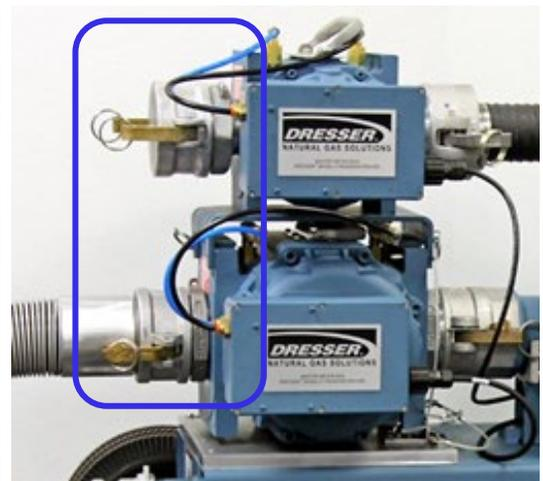

Figure 5: Hose connected to Master Meter to be used and other is capped
3. If the Prover has two Master Meters, ensure the Cam Lock Cap is firmly attached to the inlet quick-disconnect coupling of the unused Master Meter (Figure 5).
Note: In Figure 5, the lower Master Meter is being used for the test, so the upper Master Meter is capped.